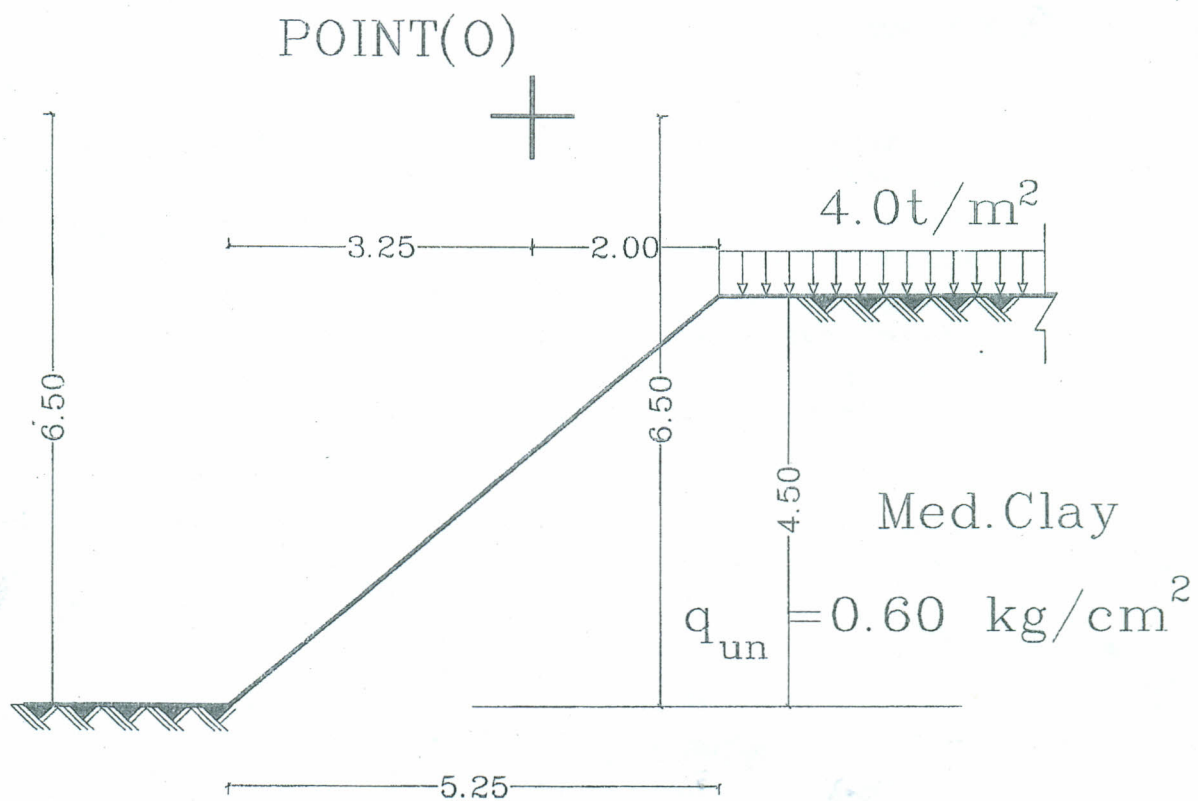

Fig.3
6. For the trial slip surface shown in Fig.3, determine the overall factor of safety against slope failure.